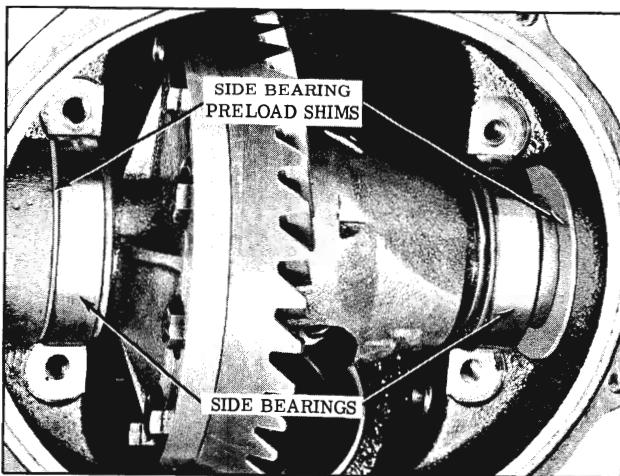

Fig. 6-109 Side Bearing Shims
2. Place case assembly in carrier with bearings and left shim in position. (Fig. 6-109)